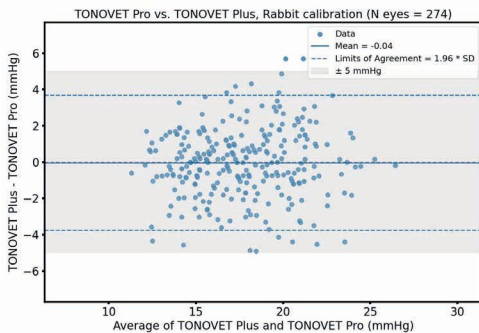

Figure 3. Rabbit calibration
- Figure 3 = Bland-Altman plot TONOVET Pro vs. TONOVET Plus rabbit calibration